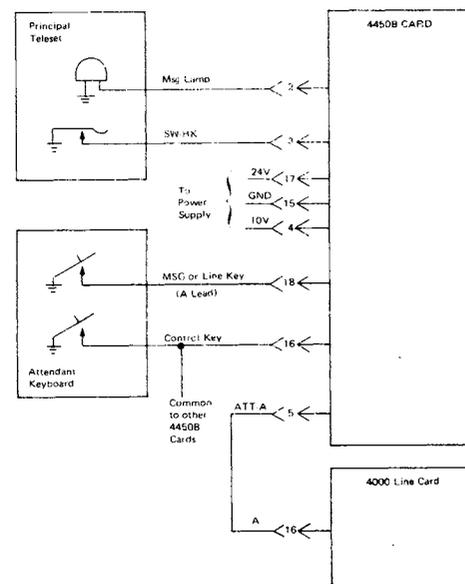

FIGURE 2
- 5.1 The San/Bar 4450B card installation connections are shown in Figs. 2 and 3. It is important to note that the pin assignments (or functions) change as a function of the strapping options.